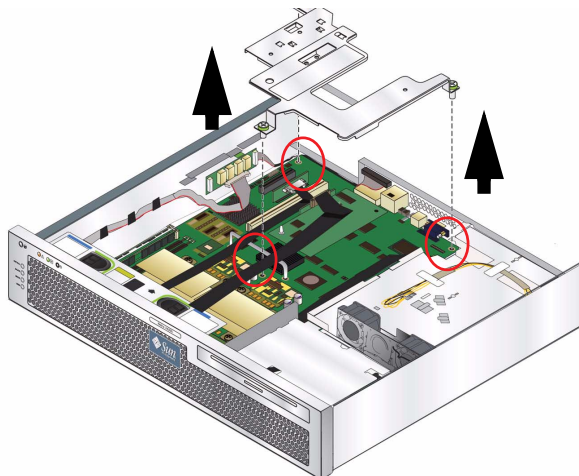
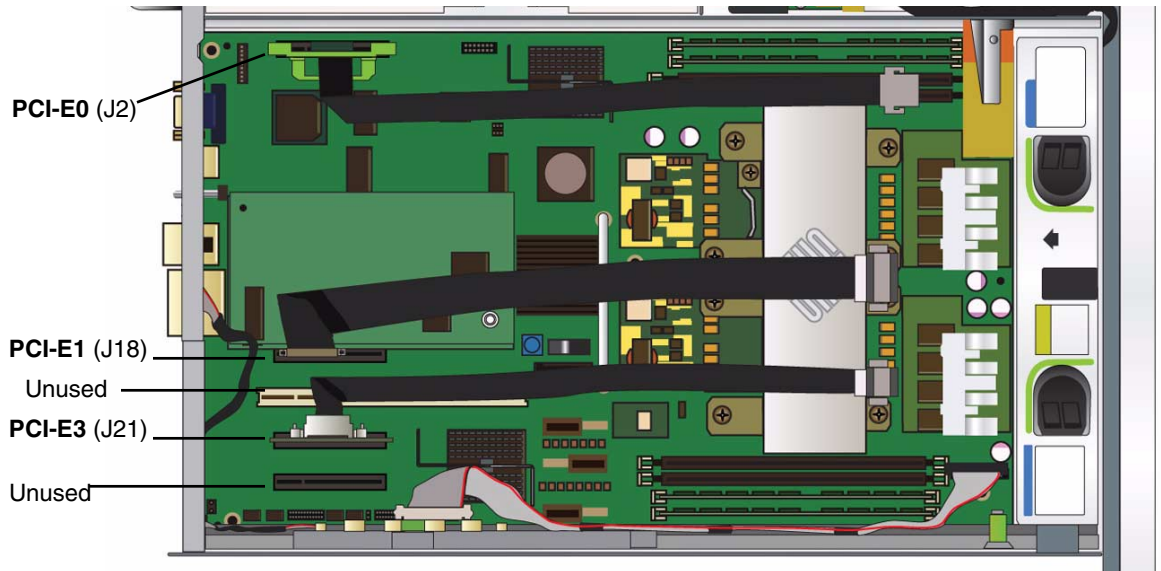

FIGURE 3-8 Screw Locations and Removal of the PCI-E cable Hold-Down Bracket
FIGURE 3-9 Ribbon Cable and Goldfinger Board Locations on the Motherboard
- Loosen the three captive screws that hold the PCI-E cable hold-down bracket in position, and lift the U-plate up and off of the motherboard (**FIGURE 3-8**). Note the ribbon cable and goldfinger locations on the motherboard (**FIGURE 3-9**).